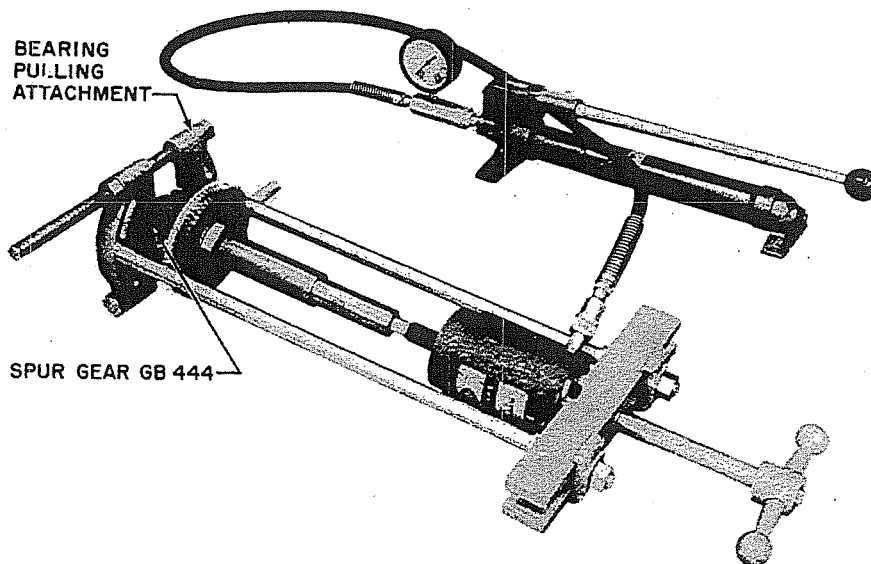

Figure 14. 4 to 1 Shaft, Installation of Spur Gear GB444
- K. Secure the bearing pulling attachment behind Spur Gear GB444 and apply pressure to the shaft (figure 14).